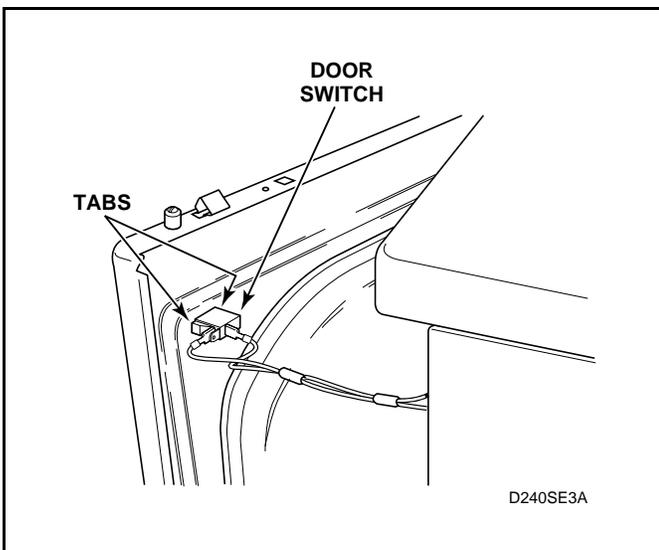

Figure 33
- d. Disconnect wires from door switch. See Figure 33.
- e. Depress tabs on switch and push out of front panel. See Figure 33.